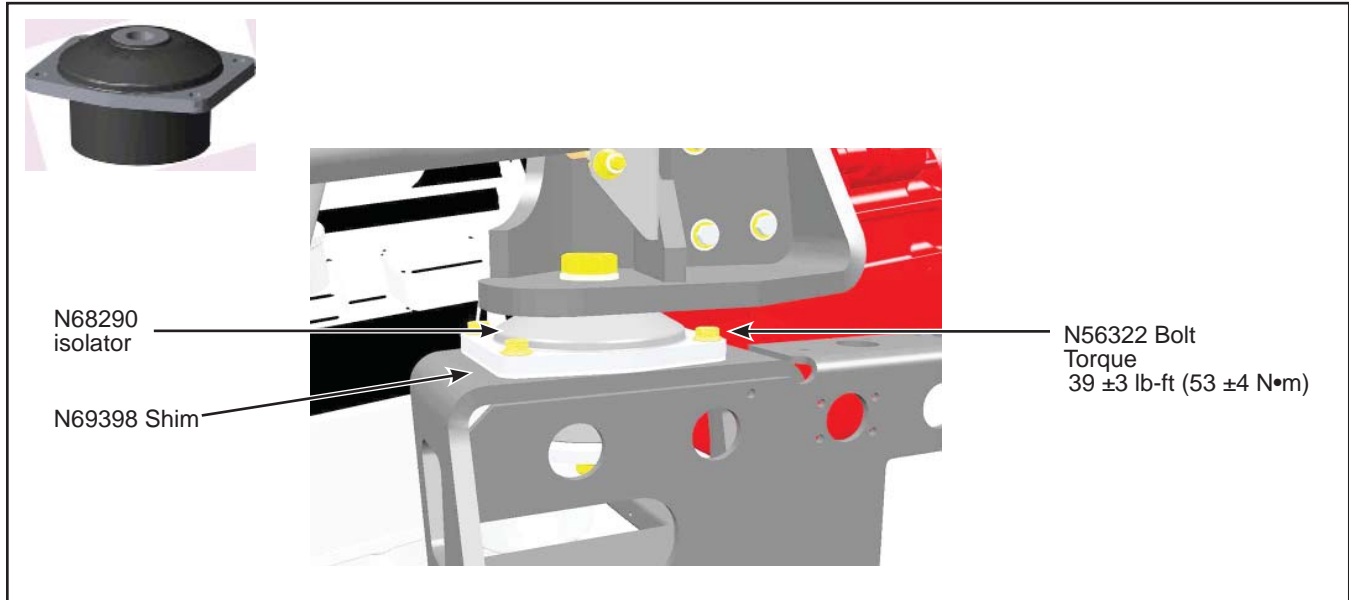

Figure 7 - Isolator Installation
- 1.14. Affix the new rubber isolator with four N56322 bolts. Tighten to the torque specified in Figure 7.